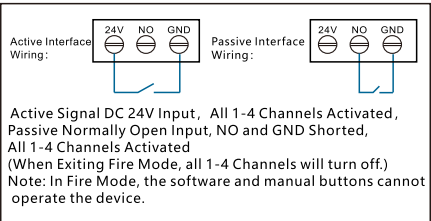

Figure 5. Fire Interface Description
6. Fire Interface: (see Figure 5).